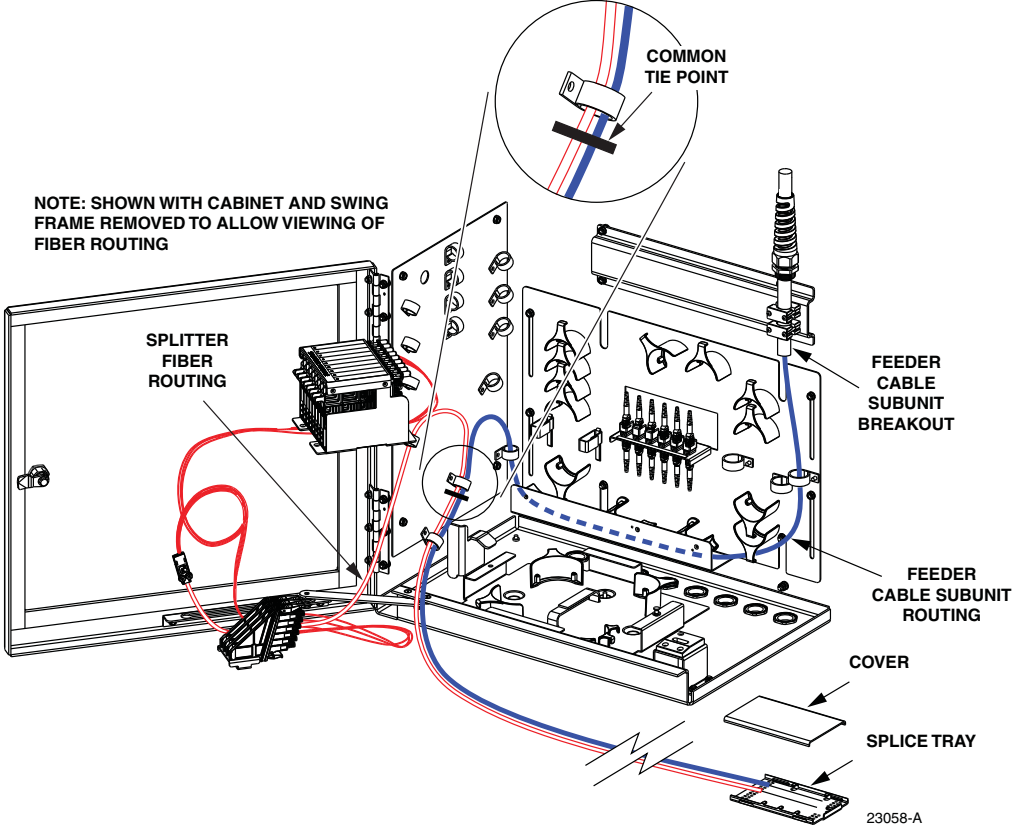

Figure 22. Feeder Cable Fiber Routing
4. Beginning at the feeder cable subunit breakout point shown in Figure 22, route the feeder cable fibers to the intersect point with the splitter fibers.